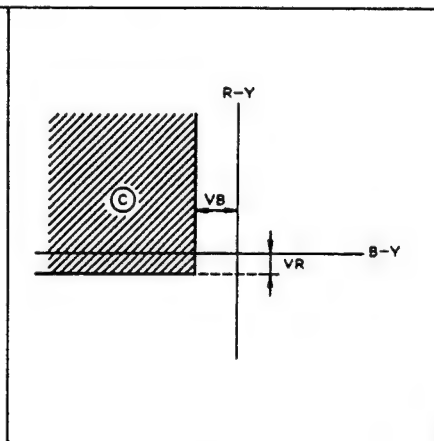

Fig. I-19
Yellow detection is effective within the range shown in b of Fig. I-19 (C). Quantities of B-Y and R-Y offsets in negative direction are determined according to  $V_B$  and  $V_R$ .